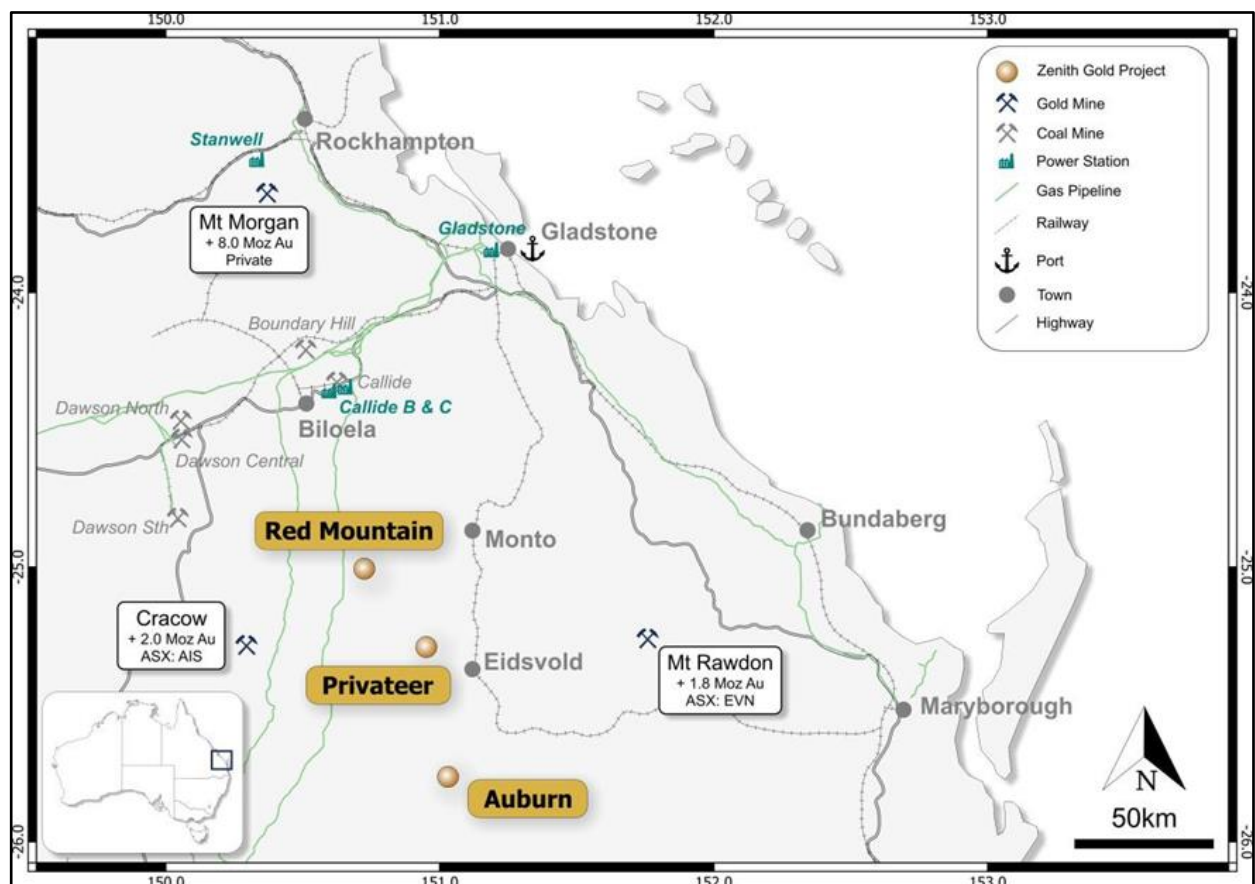

Figure 2: Strategic Red Mountain Location Map
- **Zenith's virgin gold discovery** is now emerging as a large-scale deposit in a **Tier-1 gold province**, within the Auburn Arch, host to the multimillion-ounce Cracow epithermal gold deposit and approximately 100km west of the Mt Rawdon Intrusion Related Gold Deposit (see Figure 2).